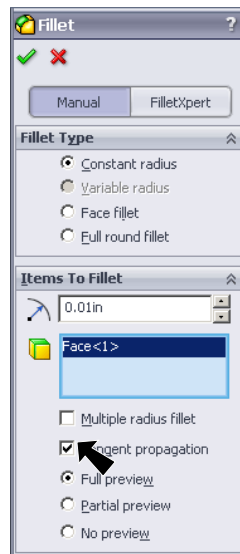
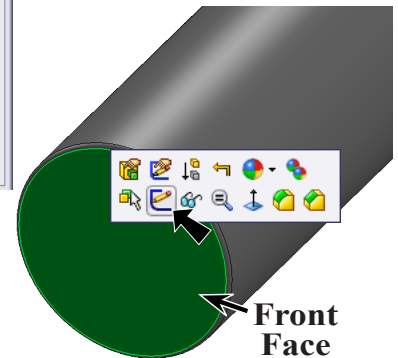
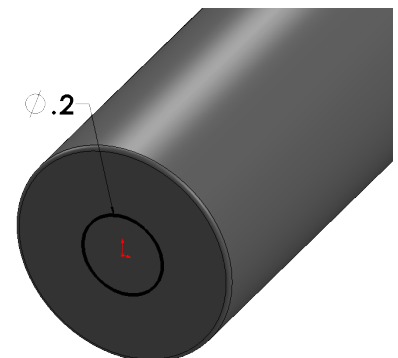

Fig. 6
Fig. 7
Fig. 8
click OK , **Fig. 6** and **Fig. 7**.
Step 1. Click the **front face** of the battery and click **Sketch**  on the Content menu, **Fig. 7**.
Step 2. Click **Circle**  (S) on the Sketch toolbar.
Step 3. Starting at the Origin , draw a circle for the terminal, **Fig. 8**.
Step 4. Click **Smart Dimension**  (S) on the Sketch toolbar.
Step 5. Dimension the circle **diameter .2**, **Fig. 8**.